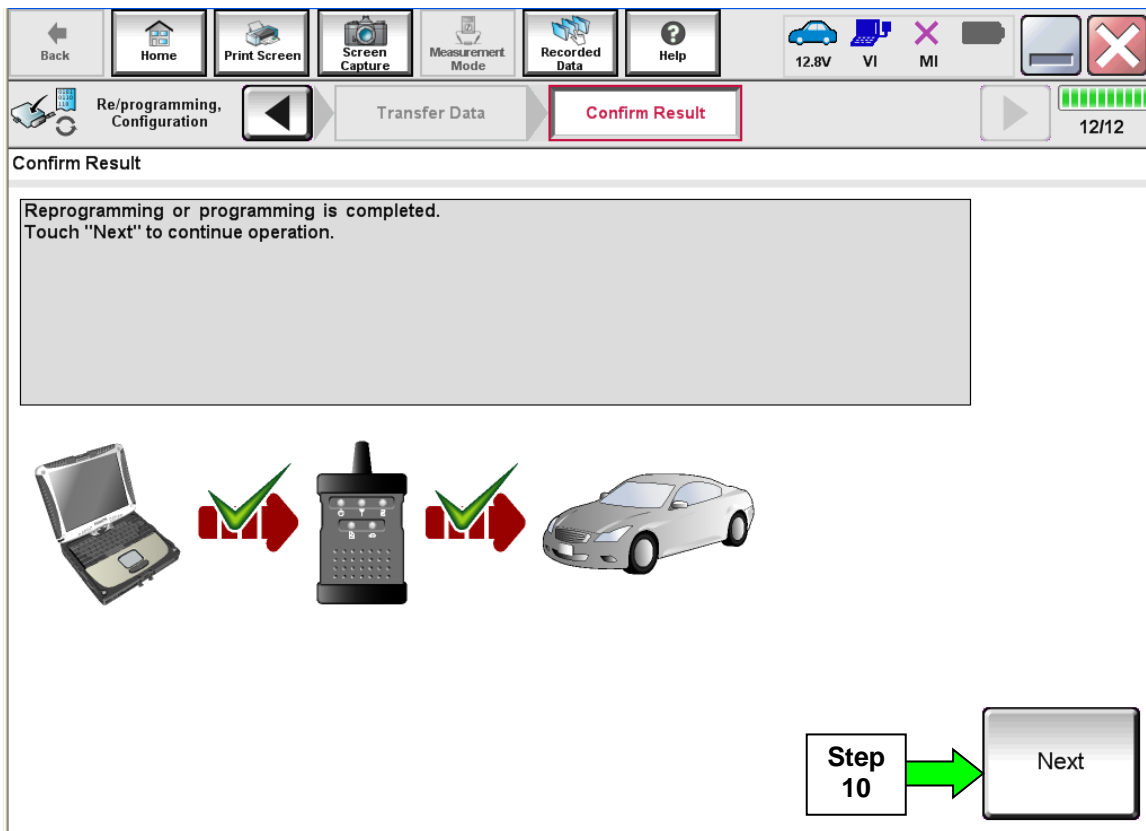

Figure 4
8. When the screen in Figure 4 displays, reprogramming is complete.
**NOTE:** If the screen in Figure 4 does not display (reprogramming does not complete), refer to ECM recovery on the next page.